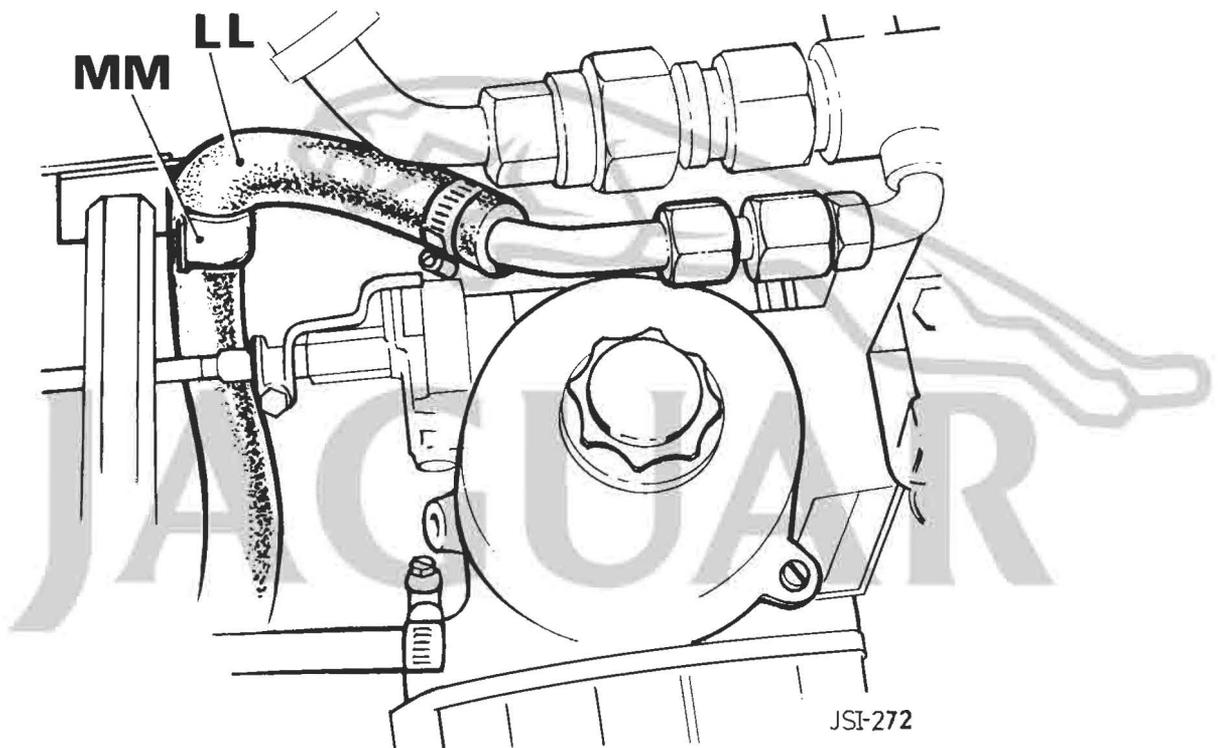

FIG. 5
- C. Position the adaptor on the fuel cooler to the position shown in Fig. 5.
- F. Fit clip (MM) and pillar nut (F) to the uppermost front throttle stud.
- G. Fit the fuel hose (LL) between the fuel cooler and the fuel filter using clip (MM) to secure the fuel hose (LL) away from the throttle spindle.